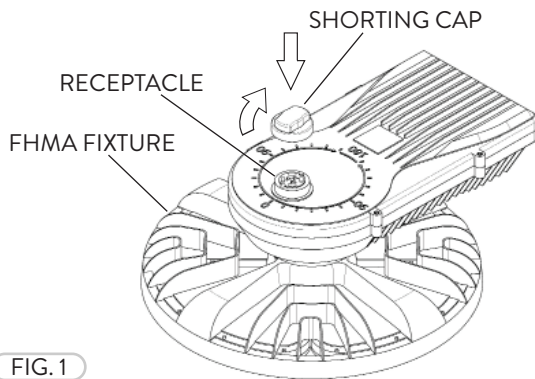

FIG. 1
- 1 Install the Shorting Cap on the (7 pin NEMA) Receptacle correctly. Install the Shorting Cap (provided) by carefully pressing down into the socket and twisting CW (Fig. 1). Note: If Photocell Sensor is provided see the following for instructions.